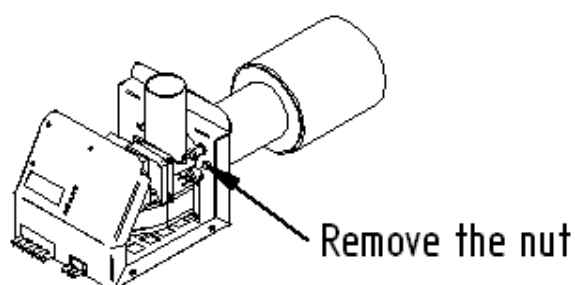

Figure 8
2. Remove the burning chamber from the burner by releasing the M6 nut (Figure 8) that connects the 2 halves of the burner. Separate the halves of the burner by pulling the burning chamber and slightly turning it at the same time.